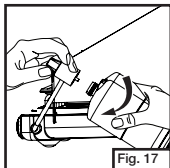

Fig. 17
- Remove propane cylinder from regulator and replace protective cap on cylinder. (Fig. 17)